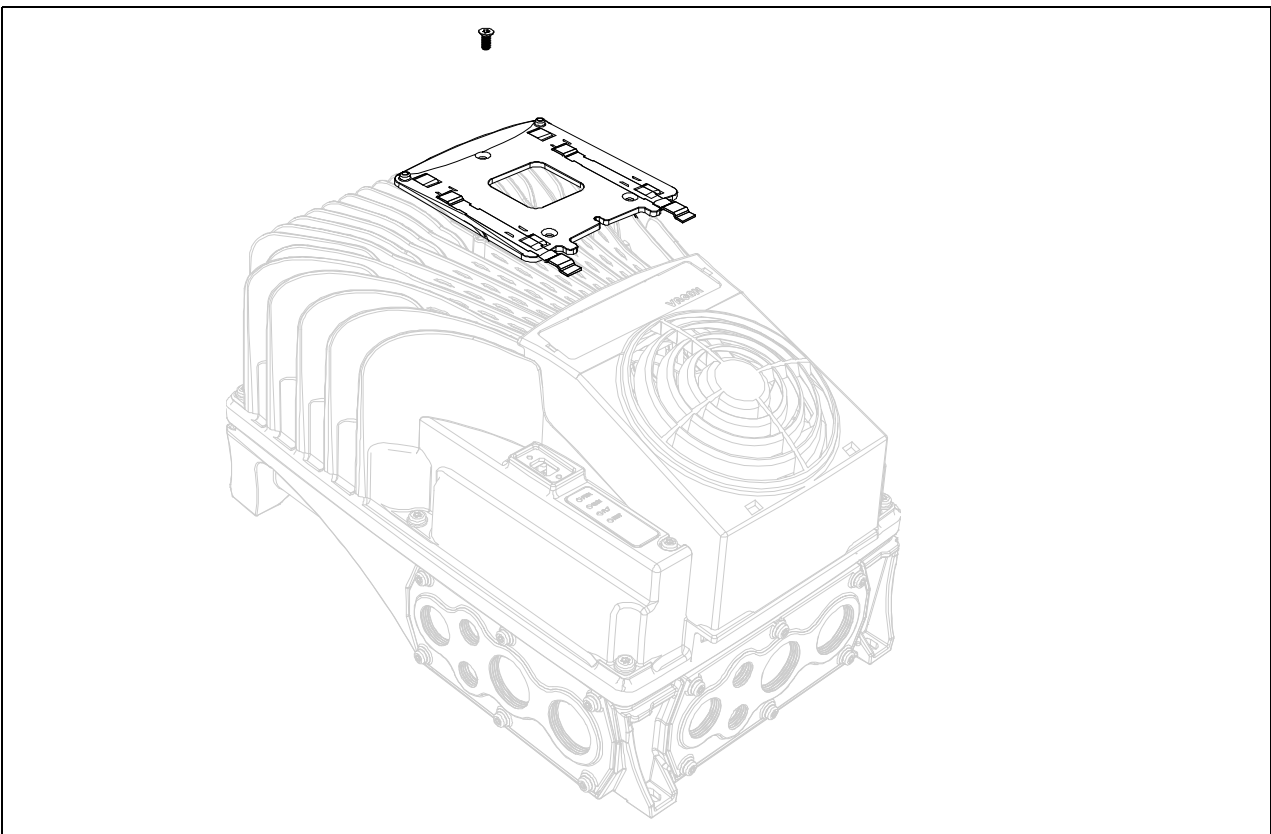

Figure 39. Installation of the keypad holder on the powerhead.
- Install the keypad holder with a screw as shown in the Figure 39.